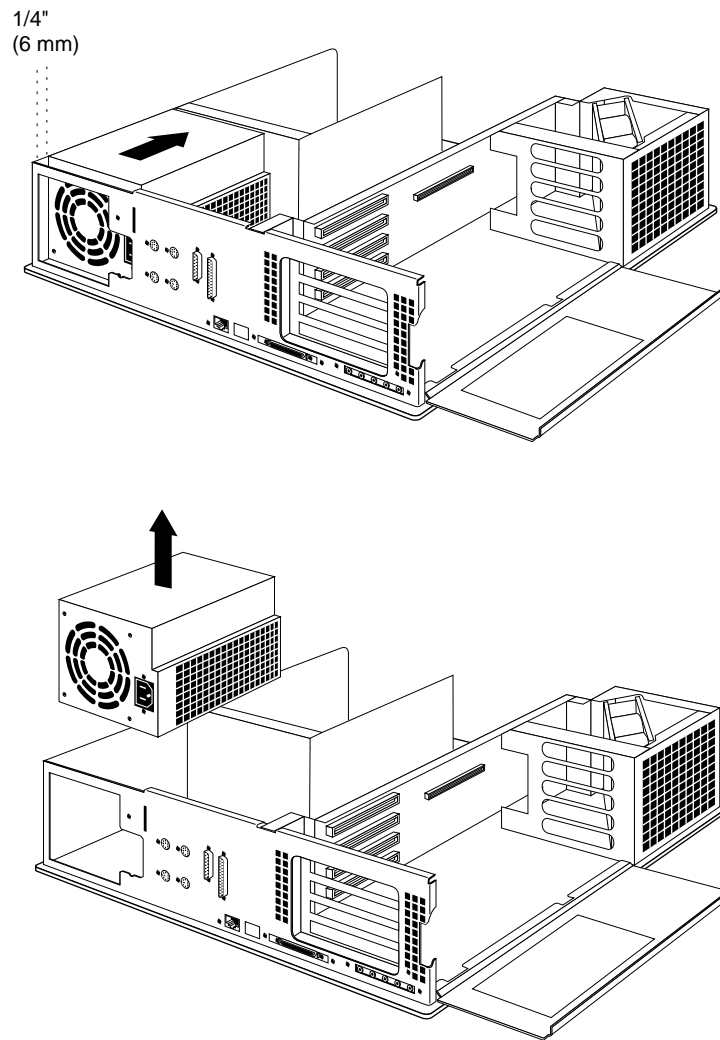

Figure 2-8 Unlatching and Removing the Power Supply
11. Slide the power supply forward about 1/4 inch (approximately 6 mm), then lift it out of the chassis, as shown in Figure 2-8.